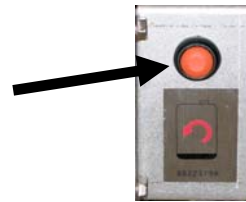

Figure 8
6. Press and hold the orange JIB reset switch **three (3) seconds** to reset the top off system. (see Figure 8).